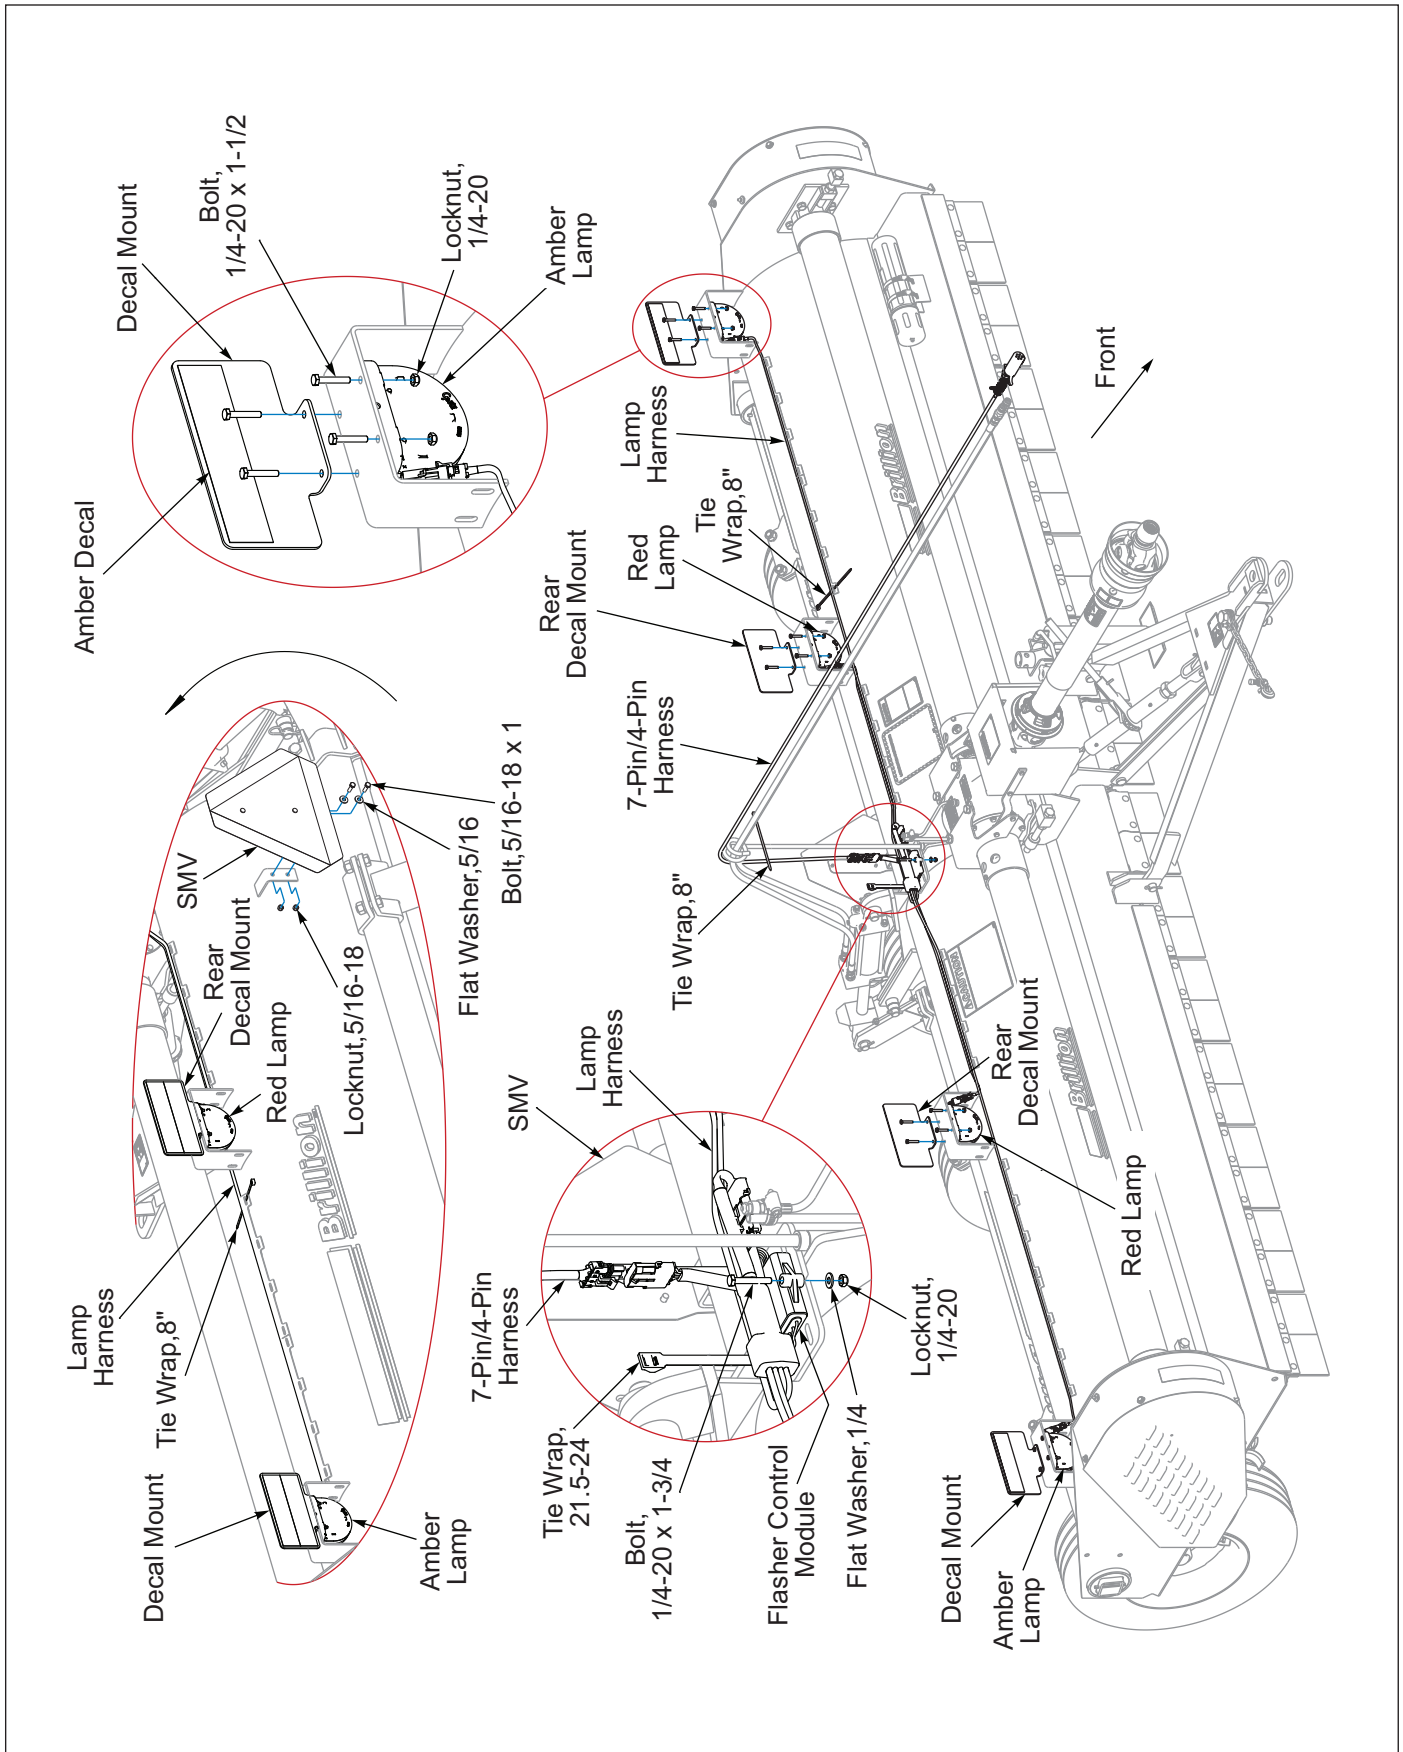

Figure 2-14: Warning Lamp Installation
1. Attach the Flasher Control Module onto the Flail Shredder Frame Plate by the Hose Support with 1/4-20 x 1-3/4 Bolts, Flat Washers and Locknuts. **See Figure 2-14.**